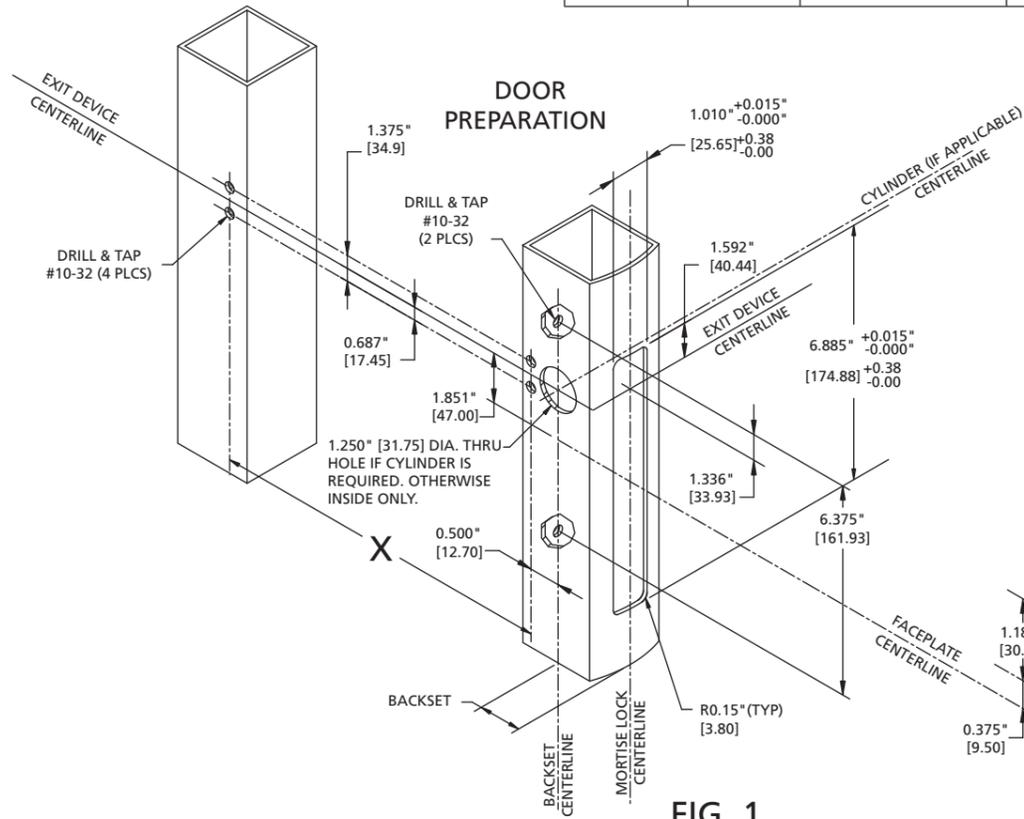
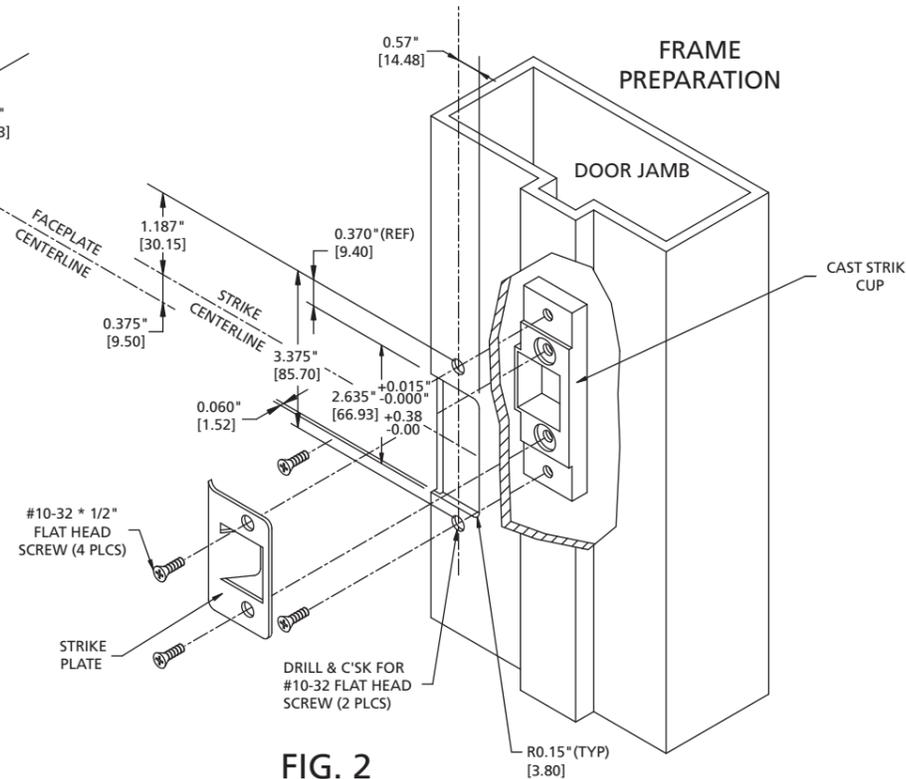

FIG. 1
FIG. 2
A. DOOR AND FRAME PREPARATION (Fig. 1 and Fig. 2)
1. Locate and mark the exit device centerline height and backset lines. (Refer to Fig 1)
2. Locate and mark the deadlatch strike centerline height. (Refer to Fig 2)
D. STRIKE INSTALLATION (Fig. 2):